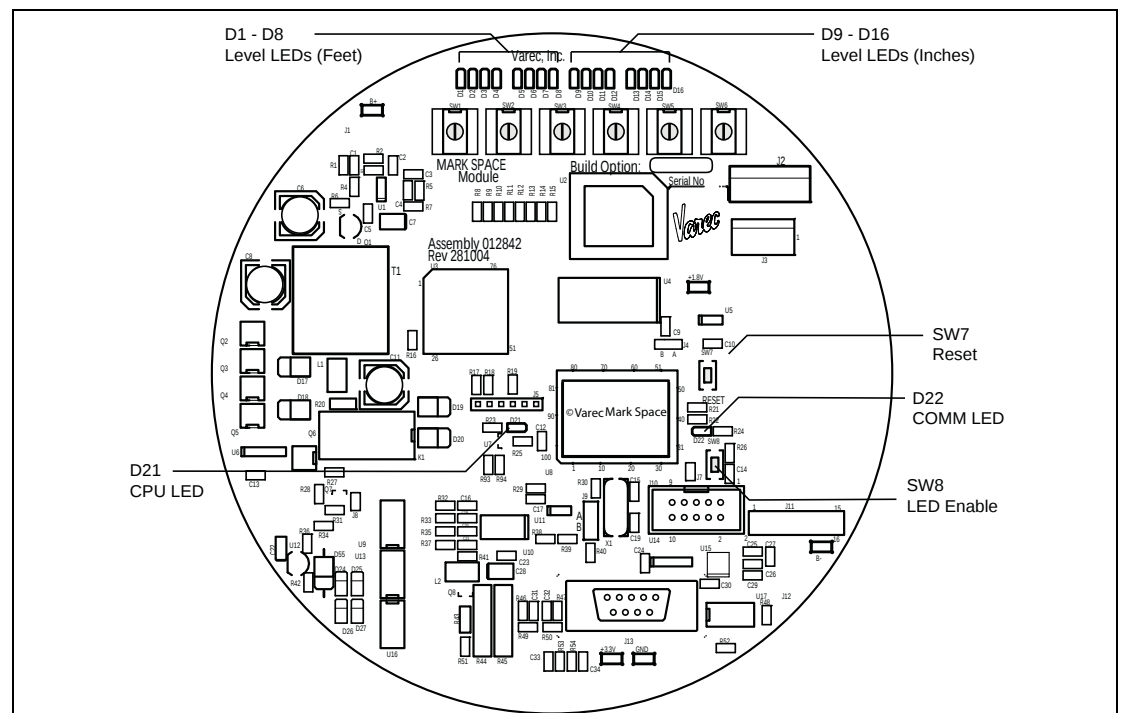

Figure 9-5: Communications Board Diagnostic Switches and LEDs (Mark/Space shown)
2. Press switch SW8 on the communications circuit board. The LEDs illuminate. See Figure 9-5 for switch and LED locations.